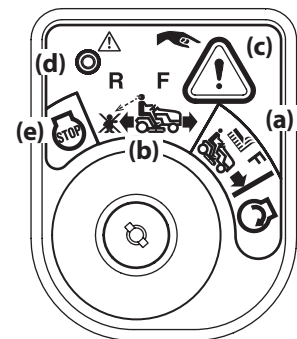

Figure 3-9
2. Turn the key from the NORMAL MOWING  (a) position to the REVERSE CAUTION MODE  (b) position of the ignition module. See Figure 3-9.
3. Press the REVERSE PUSH BUTTON  (c) at the top, right corner of the ignition module. The red indicator light (d) at the top, left corner of the ignition module will be ON while activated. See Figure 3-9.